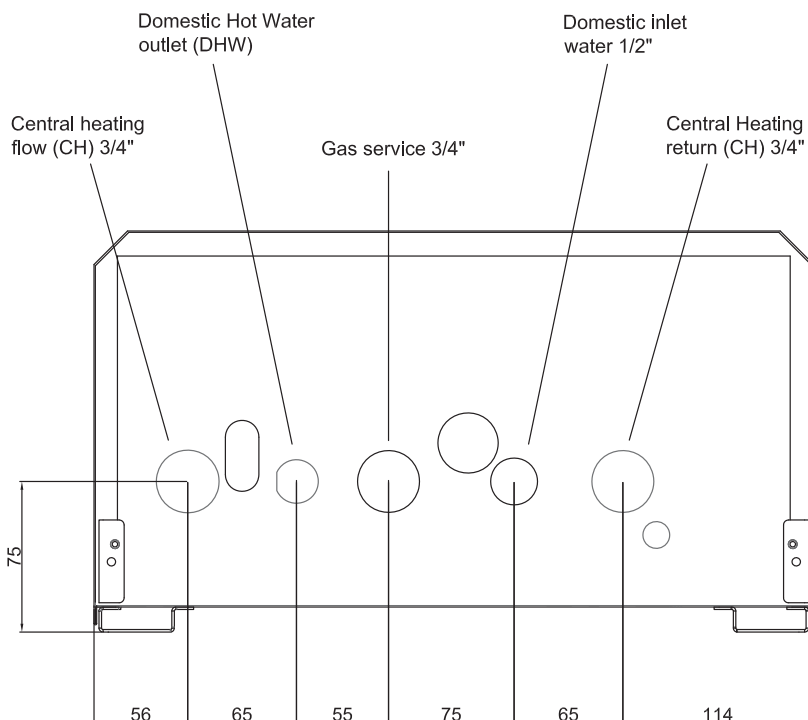

Fig. 29
5.22 CENTRAL HEATING CONNECTION (Fig. 29)
- Pipe dimensions and positions are marked on template supplied (fig. 29).